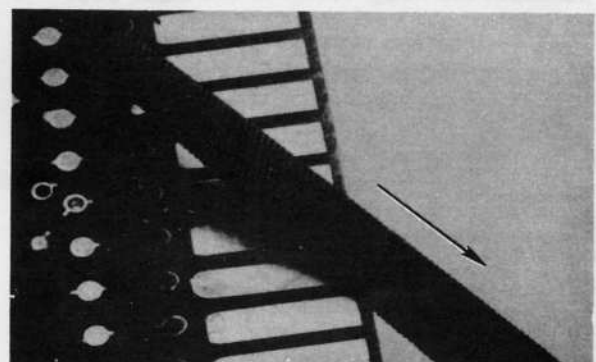

FIGURE 27. FILING EDGE CONNECTOR
STEP 24. Using a file, chamfer the edge of the Edge Connector for a smooth, even finish (see Figure 27). **NOTE:** Insure that the file is used with application only in the direction shown.